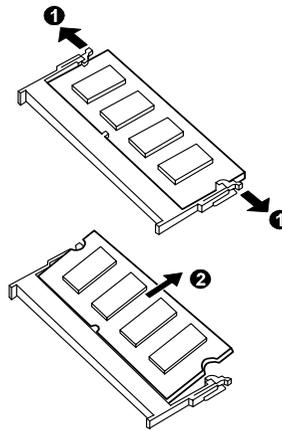

Figure 2-11 Remove the SO-DIMM
3. Pull the retaining clips outwards (❶) and remove the SO-DIMM (❷). (Figure 2-11)